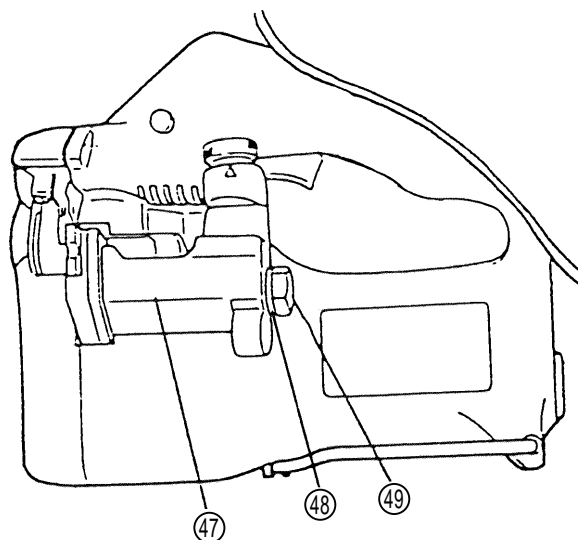

Fig. 1
- (3) On completion of the above preparations, be sure to disconnect and remove the battery. Remove the W3/8 Bolt ④⑨, loose the Spring Washer M10 ④⑧, and take off the Stud Guide ④⑦. (Fig. 1)